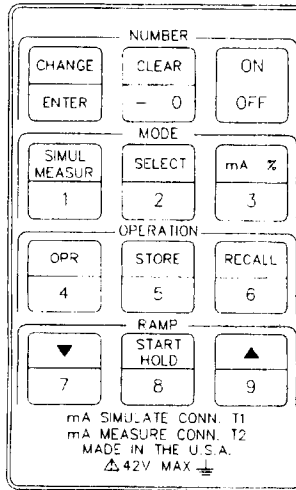
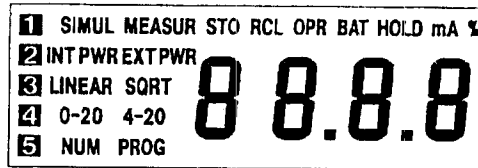

Figure 2. Keypad
Figure 3. Display Test
- After a new battery is installed, press the ON/OFF key (Figure 2) once or twice to verify operation. The unit should momentarily turn on all segments and annunciators (Figure 3) of the display.
Turn on the instrument by depressing the ON/OFF keyswitch once. At power-up, the unit first performs a display test. All segments and annunciators of the liquid crystal display (LCD) are momentarily turned on for visual confirmation by the user (Figure 3).